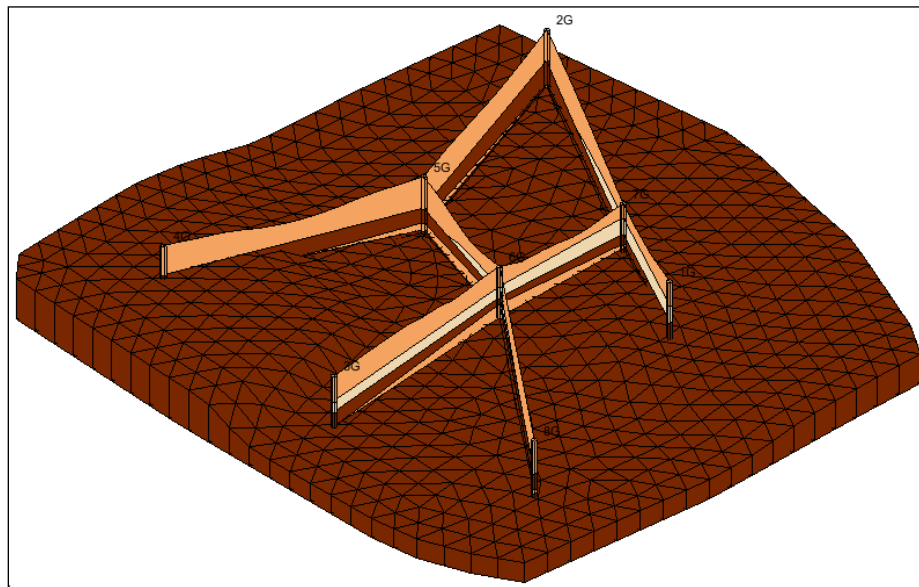

Figure 10 *Previous Silty_Clay 1 solid*
3. Turn on the corresponding solid (“ Silty_Clay 1”) in the “ solids (2)” folder. Notice the area that the solid covers (Figure 10).
4. Turn on and off (“ Silty_Clay 1”) in the “ solids (2)” folder until comfortable with the difference between the one from “ solids (2)” and the one from “ solids (3)”.